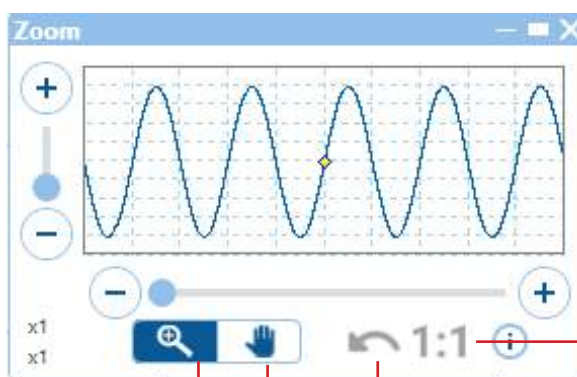

Fig.2
- **Zoom Overview** A miniature overview of the entire waveform is displayed when zoom is in use. You can directly select and drag a region within this overview to zoom in on the corresponding portion of the main waveform display, see Fig.2